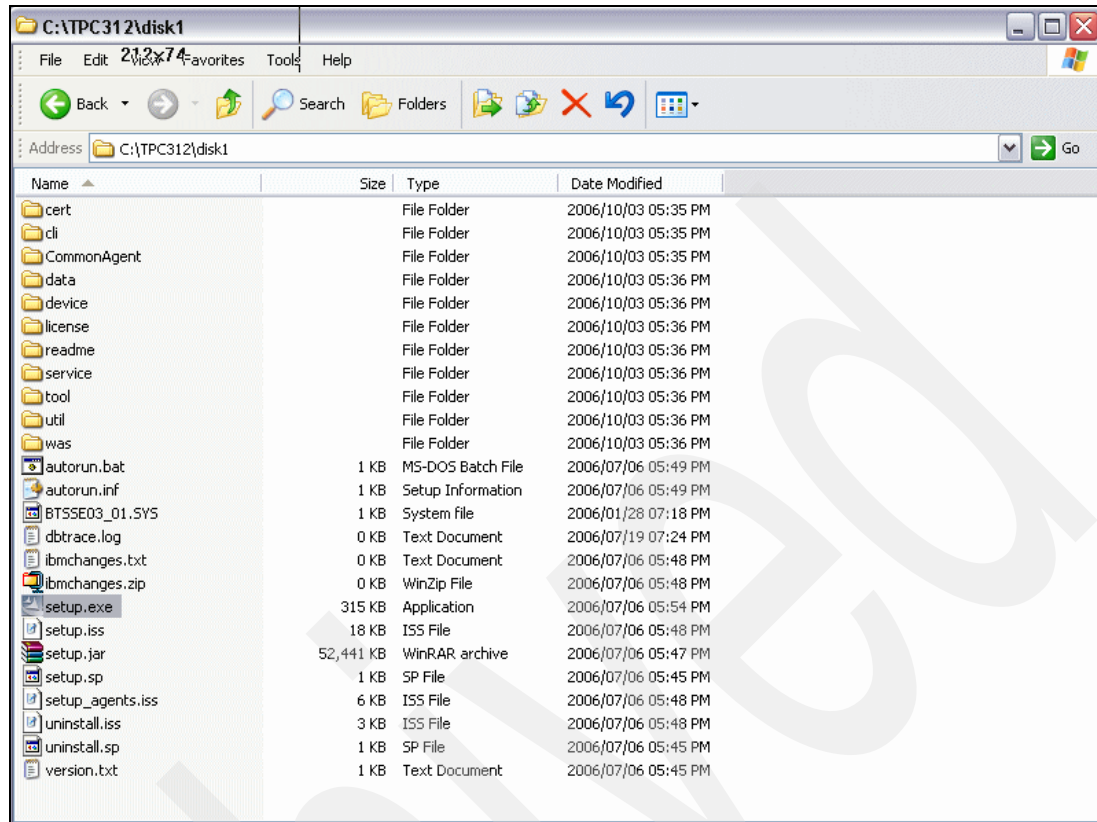

Figure 6-29 Browse to software and select setup.exe
1. Browse to the software and run **setup.exe** as shown in Figure 6-29 on page 255, or use Disk 1 of the TPC code to install the CLI software.